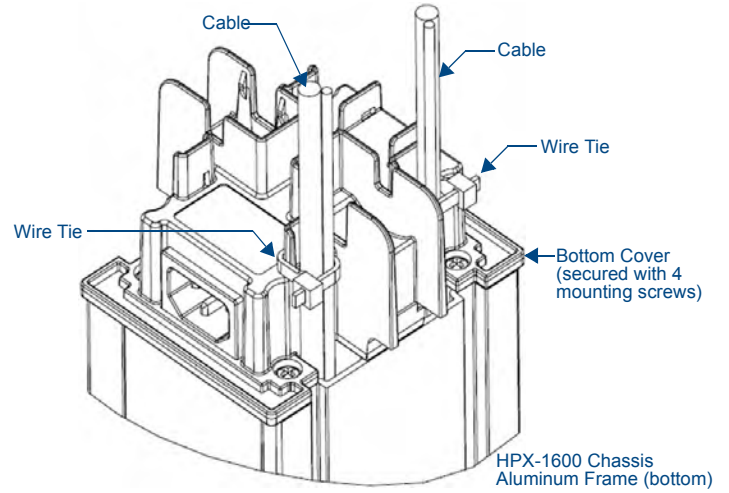

FIG. 7 Bottom Cover - Installed With Cables Exiting and Secured
2. After the bottom cover is secured using four screws, secure the cables to the corresponding tab near each opening using a small cable tie (FIG. 7).